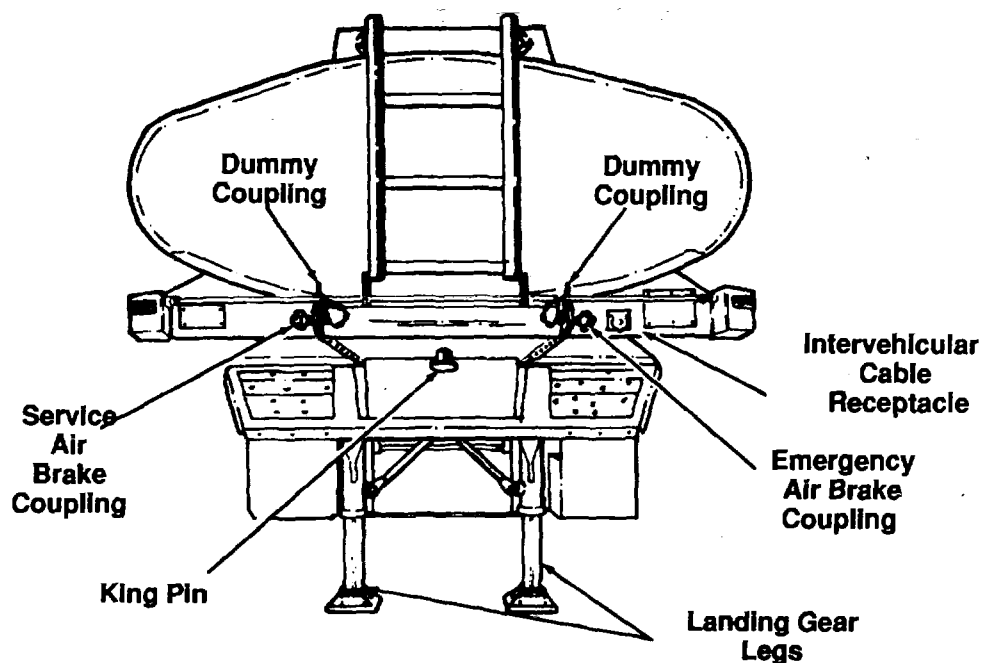

Figure 2-1. Connections Used in Coupling Semitrailer to Towing Vehicle
2-3. Coupling Semitrailer to Towing Vehicle (Figs. 2-1 through 2-3)
b. Remove dummy couplings from the service air couplings and emergency air couplings, fig. 2-1. Couple the towing vehicle air line marked SERVICE, and the air line-marked EMERGENCY to the semitrailer coupling bearing a like tag.
- d. Plug the intervehicular cable into receptacle, fig. 2-1. Operate lights from towing vehicle to make sure that all semitrailer lights are working properly.
- b. Close shut-off valves on the service and emergency air lines at the rear of the towing vehicle. Uncouple the two air brake hoses from the air brake hose couplings on the semitrailer, fig. 2-1. The semitrailer brakes will set automatically when the emergency air
c. Disconnect intervehicular cable from receptacle on semitrailer, fig. 2-1.